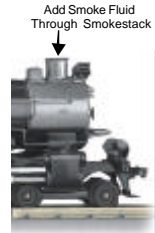

Figure 4. Add Smoke Fluid
1. You should prime the operating smoke unit with smoke fluid before operating. Add 15-20 drops of smoke fluid through the smokestack, then gently blow into the stack to eliminate any air bubbles in the fluid. See Fig. 4.
When preparing to run this engine, add 15-20 drops of smoke fluid through the smokestack (see Fig. 4). We recommend M.T.H. ProtoSmoke, Seuthe, LGB, or LVTS fluids (a small pipette of ProtoSmoke fluid is included). Do not overfill the unit or the fluid may leak out and coat the interior engine components.